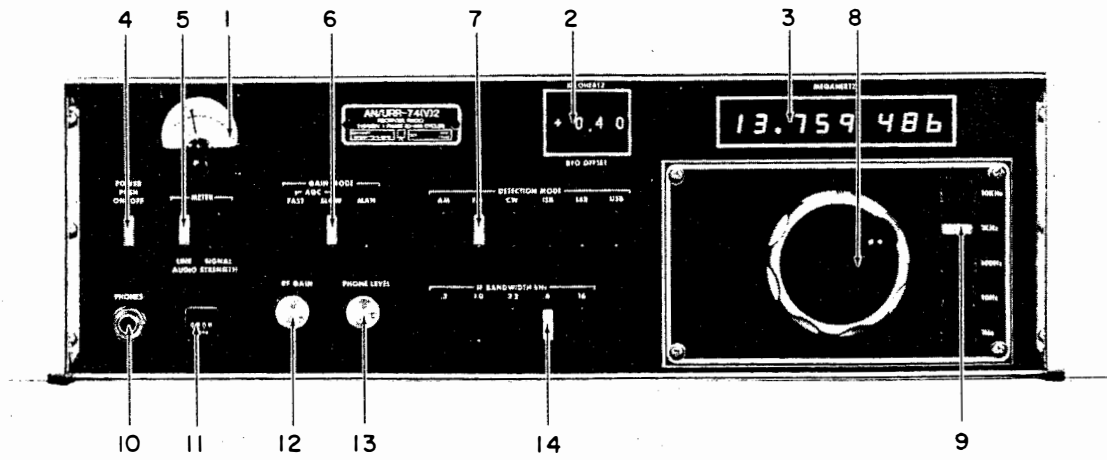

Figure 2-1. AN/URR-74(V)2 Receiver, Front Panel View
2-1. INTRODUCTION. Operation of the AN/URR-74(V)2 radio receiver is simple and does not require the operator to manipulate any other units as all controls, connectors and indicators are located on the receiver proper. Figures 2-1 and 2-2 are photographs of the front and rear panels of the receiver. All items on these panels are number coded and are identified and explained in the following paragraphs. This chapter also contains detailed procedures for operation of the receiver in its various modes.
a. Front Panel. Refer to figure 2-1. The numbers shown in the figure correspond to the paragraph numbers below.
(1) RF/audio meter. Located in the upper, left-hand corner of the equipment, this meter reads either signal strength, with a range of 0 to 110 dBm or line audio level in dB, above 1 mW, referenced to 600  $\Omega$ . Meter readings are selected by the METER push buttons located below the indicator. The meter is moisture-tight and meets the standards of MIL-M-10304.
(2) BFO OFFSET. These thumbwheel switches are activated only in the CW detection mode. The BFO offset is  $\pm 8.9$  kHz (from 455 kHz) in steps of 100 Hz. The BFO signal is injected after the IF bandwidth filters, thus ensuring that the pitch is independent of IF bandwidth. Switching to "0" of the "+, 0, -" section of the switch automatically tunes the BFO to 455 kHz, regardless of the setting of the numerical sections.
(3) Tuned frequency readout. This seven-digit readout displays the tuned frequency of the receiver. Each digit is a seven-segment yellow LED with intensity controlled